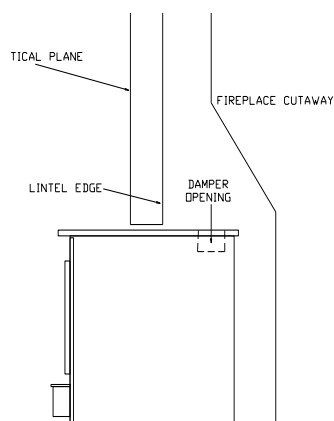

FIGURE 5 **POSITIONING**
When positioning heater, the following conditions **MUST** be met! (See Figure 5).
1. The front of damper opening must be positioned **BEHIND** back edge of the lintel to ensure proper draft. (See Figure 5).